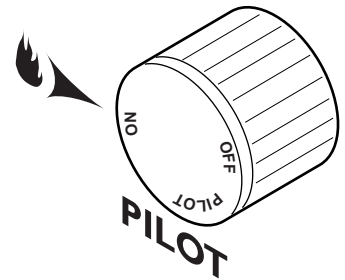

Figure 53 - On Position
Depress and turn the knob counterclockwise  to the “ON” position. *See Figure 53.* It will take less than four (4) seconds for the burner to ignite.